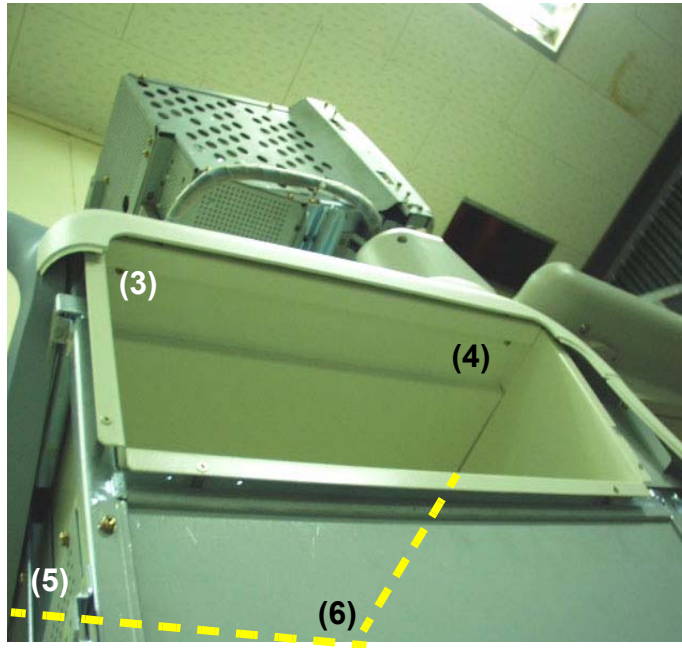

Figure 8-81 Unscrew 4 screws from the bottom
- 5.) Unscrew four screws (3-6) from the bottom of the Top cover. Refer to Figure 8-81 on page 8-36 .